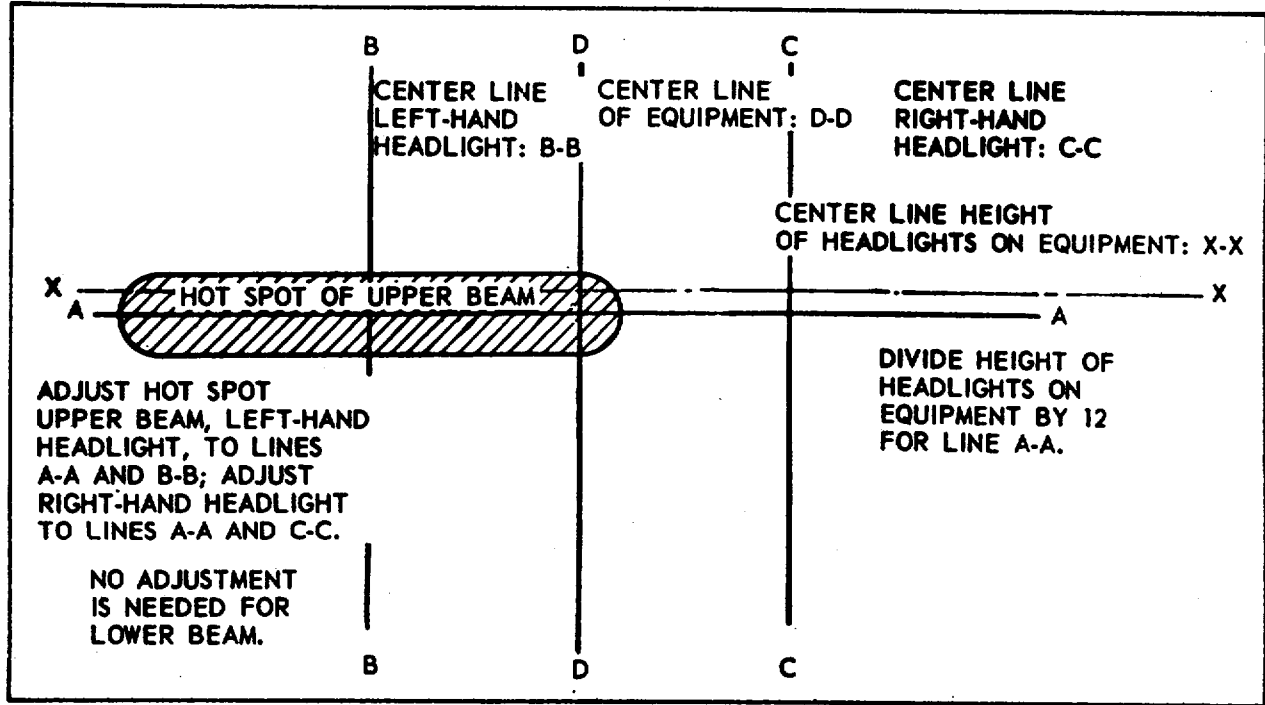

*Figure 4-70. Marker, blackout and headlights removal and installation (model 2385).*
- a. Removal. Remove marker, blackout, or headlights as illustrated in figure 4-70.
- c. Installation. Install marker, blackout, or headlight as illustrated in figure 4-70.